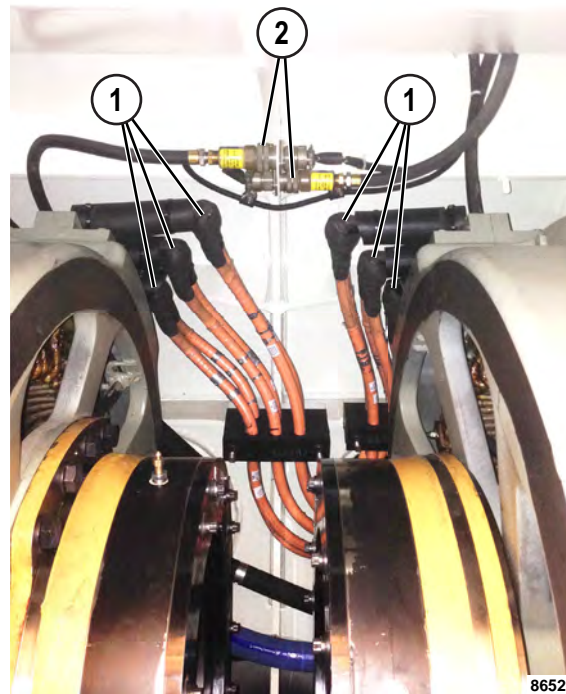

FIGURE 50-140. WHEEL MOTOR POWER CABLES
8. Disconnect six wheel motor power cables (1, Figure 50-140) and wheel speed sensor harnesses (2) from each wheel motor.